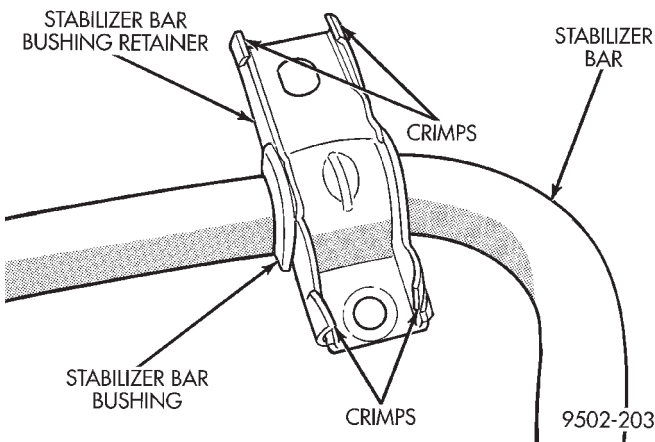

Fig. 115 Stabilizer Bar Bushing Retainer
(1) Bend back the 4 crimp locations on the stabilizer bar bushing retainer (Fig. 115).